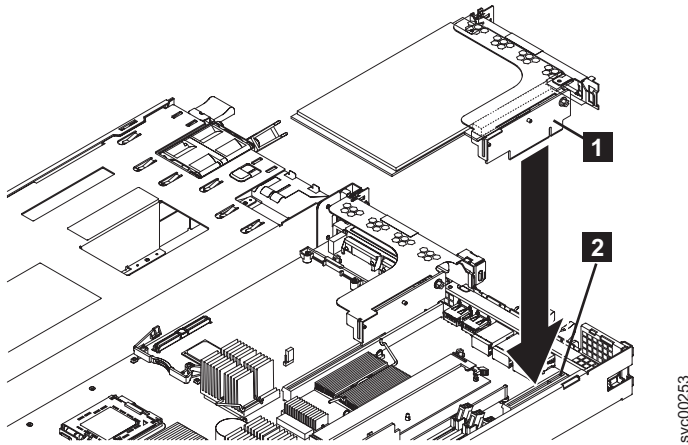

Figure 184. Replacing the riser-card assembly for the SAN Volume Controller 2145-8G4
1. As you start inserting the adapter, align the edge connector on the low-profile adapter **1** with the connector **3** on the riser-card assembly **4**. Make sure that the adapter snaps into the riser-card securely. Press the riser-card edge connector firmly into the system-board connector **5**, as shown in Figure 184.